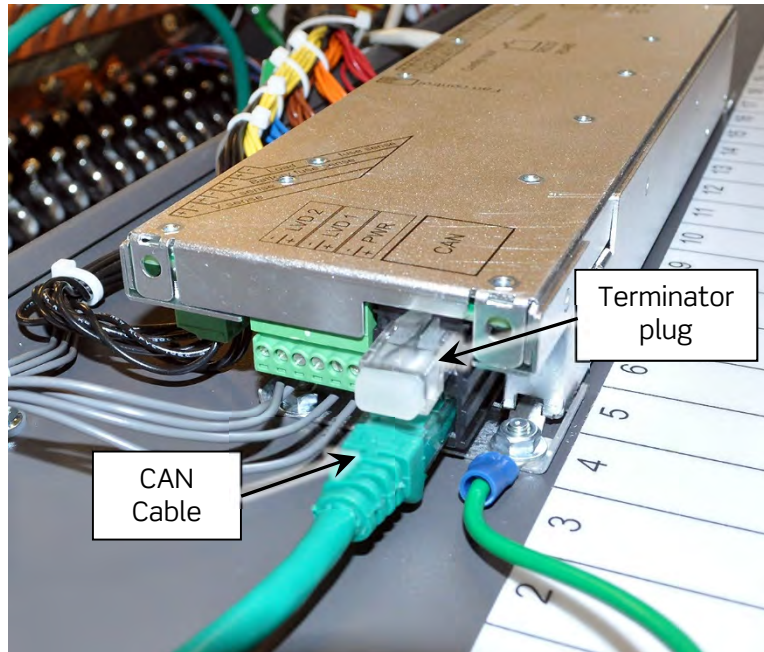

Figure 33 - CAN Cable
2. Plug the CAN cable into the CAN cable port (see Figure 33).